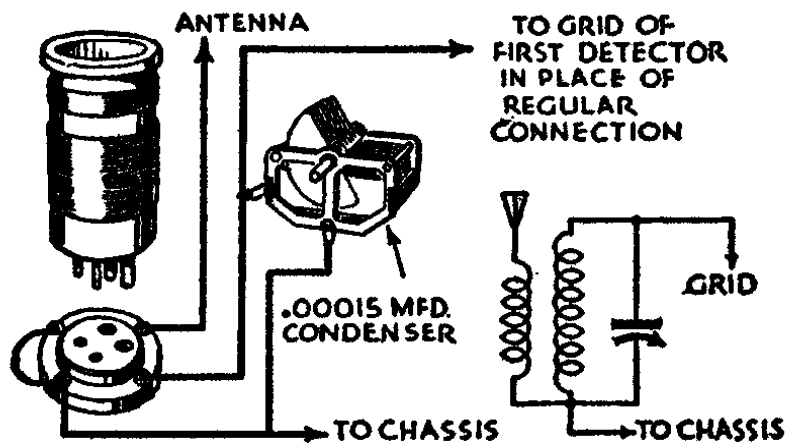

FIG. 146
*The Short-Wave Adapter:* The simplest way to obtain this result with a modern superheterodyne broadcast receiver is by way of the simple adapter circuit shown in Fig. 146. It consists of an additional, or auxiliary, tuning circuit which is attached directly to the grid of the first detector tube. The original connection in the set is broken and the lead from the adapter substituted. The second lead from the output of the adapter is wired to the chassis of the receiver or to the ground terminal.
As with the simple adapter illustrated in Fig. 146, however, there is one precaution that must be followed in wiring a short-wave switch arrangement. If the receiver is equipped for automatic volume control the wiring of the short-wave switch will differ slightly. In receivers of this type, the switch arms should not be connected to a common ground as shown in the diagram, (Fig. 148). Instead, the contact arms for the radio-frequency and detector-coil tap switches should be wired to the proper point in the automatic volume control circuits. How this connection should be made can be determined by following the wiring of the original leads from the bottom ends of the coils.